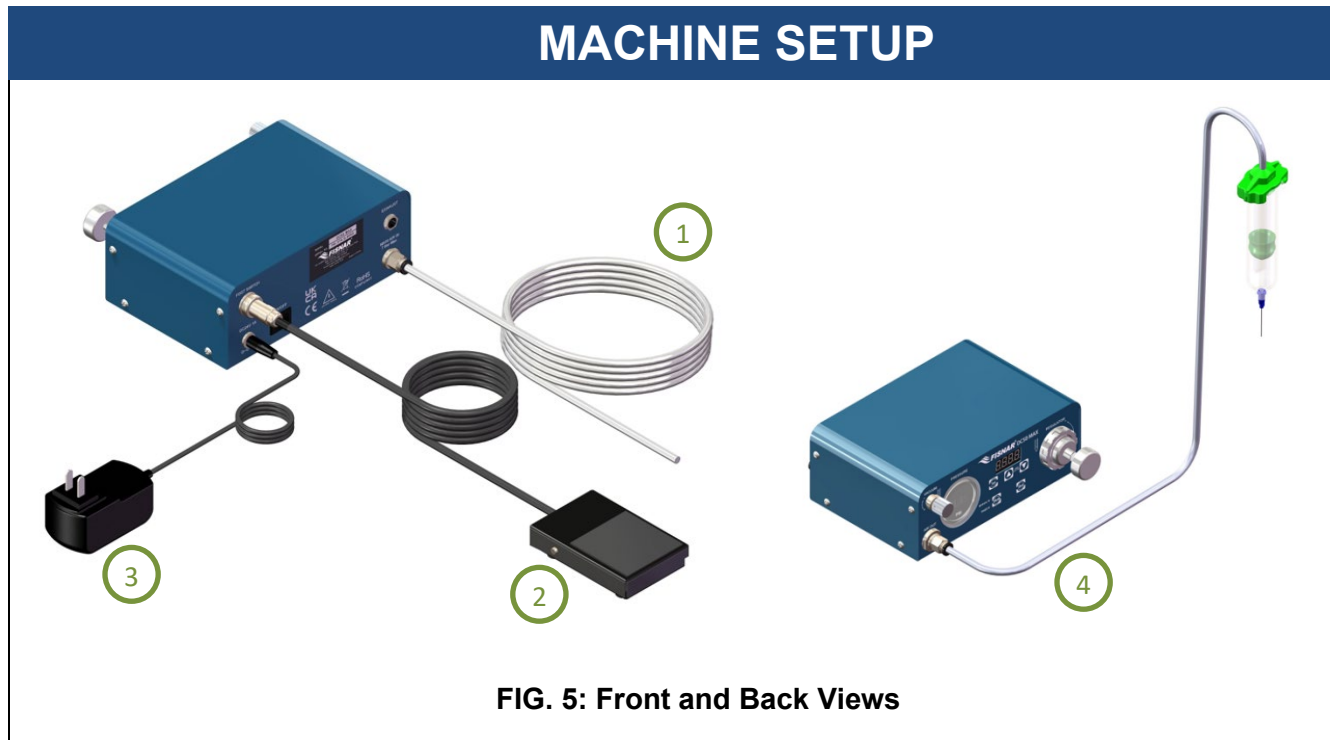

FIG. 5: Front and Back Views
1.	Connect the air hose (1) from compressed air 70-100 psi (5-7 bar) to the air inlet port on the back of the machine. See FIG. 5.
2.	Insert the foot pedal connector (2) to the port on the back of the machine. See FIG. 5.
3.	Attach appropriate country type plug adapter onto the power supply and then connect the electrical power cord (3) to the port on the back of the machine. See FIG. 5.
1. Connect the syringe barrel adapter head assembly to the “Air Out” port on the front of the machine. (4) See FIG. 5. Fisnar adapter head assemblies are fitted with a green colored push to connect fitting (5606038) that can be inserted directly into the “Air Out” port on the front of the machine.